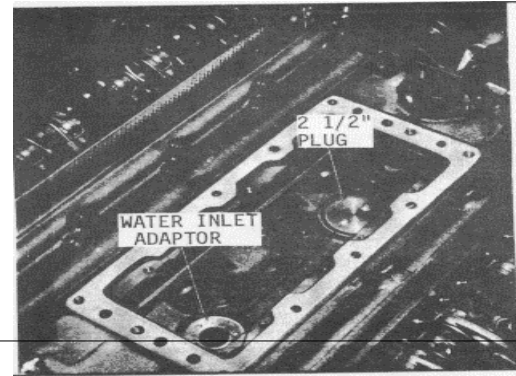

Fig. 3
- (1) Install new seal rings in the two grooves on the water inlet and outlet tube ends of the aftercooler. Coat the seal rings lightly with engine oil or vegetable shortening. Do not scratch or nick the sealing edge of the seal rings.
- (2) Place the aftercooler, water outlet end first, into the cylinder block opening between the cylinders. The water inlet end of the cooler seats in the water inlet adapter plug (Fig. 3). Install new 5/16"-18 x 9/16" attaching bolts with nylon locking patch (six - 6V-92, eight - 8V-92). Do not tighten the bolts until the water outlet tube to thermostat housing hose and clamps are aligned and tightened.